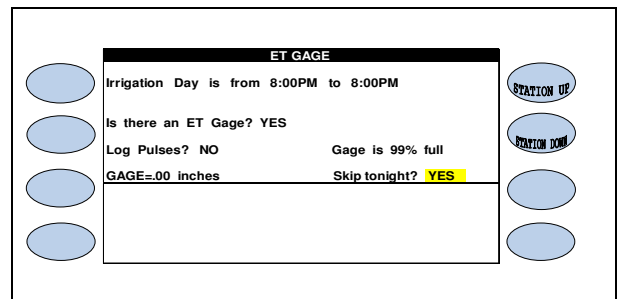

**Figure 8**
11.  Press the blue **ARROW** key to move the cursor to the **GAGE =.00 INCHES** (Figure 8).